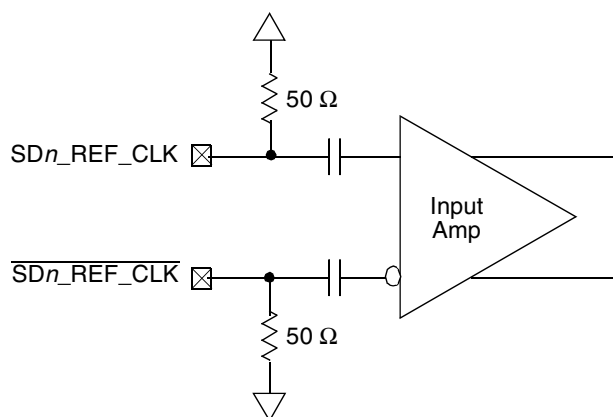

Figure 55. Receiver of SerDes Reference Clocks
Figure 55 shows a receiver reference diagram of the SerDes reference clocks.
- The SDn_REF_CLK and $\overline{\text{SDn_REF_CLK}}$ are internally AC-coupled differential inputs as shown in Figure 55. Each differential clock input (SDn_REF_CLK or $\overline{\text{SDn_REF_CLK}}$) has a 50 Ω termination to SGND_SRDSn (xcorevss) followed by on-chip AC-coupling.